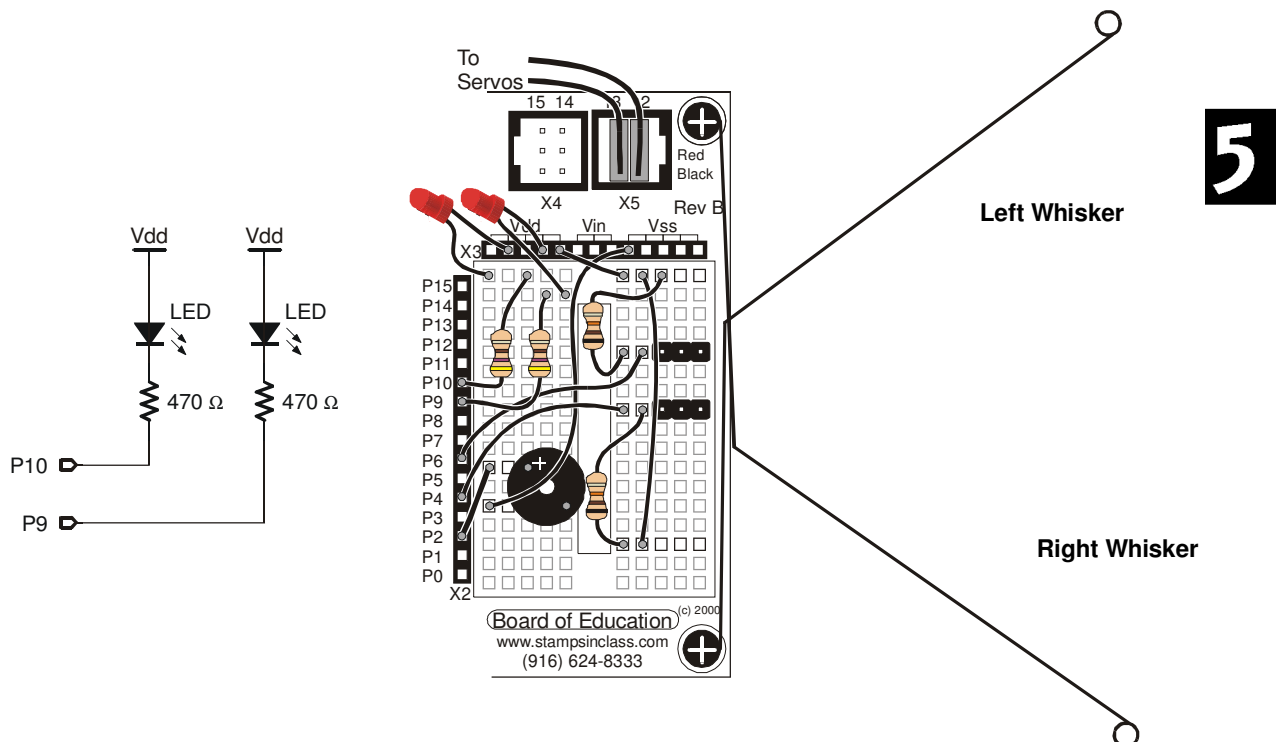

Figure 5.6 (a): add this LED circuit,
LED stands for light emitting diode. The terminal labeled 1 in figure 5.6 is the LED's cathode, and the terminal labeled 2 is the LED's anode. You can usually figure out which of the LED's two wire leads is connected to the cathode because it's shorter.
- Construct the circuit shown in Figure 5.6.